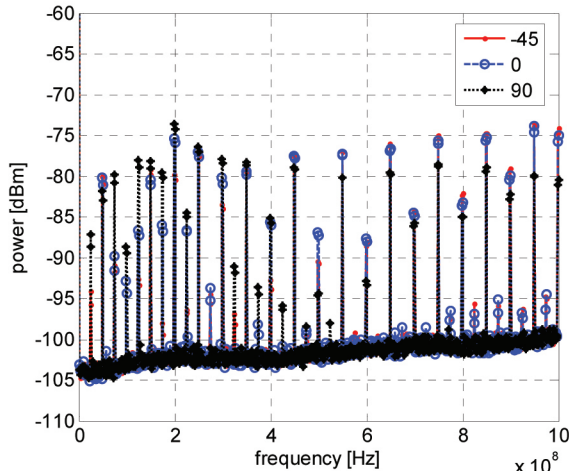

Figure 7:
The measured results of the output power for all three measurements using the spectrum analyzer are shown in Figure 6. The peaks correspond to the fundamental and harmonic frequencies of the clock. Then the equivalent electric and magnetic dipole moments were calculated based on the measured results using (2) and are shown in Figure 7. Naturally, these dipole moments have peak values at the fundamental and harmonic frequencies.